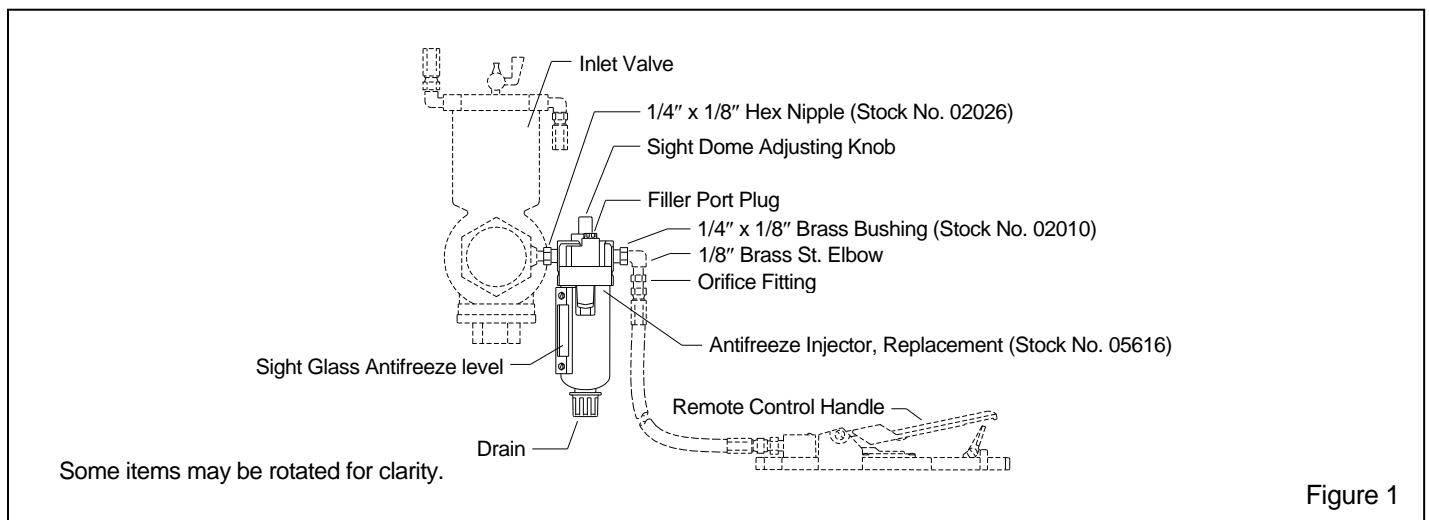

Figure 1
**2.1** The antifreeze injector is placed between the inlet valve and the air line to the remote control handle as shown in Figure 1.